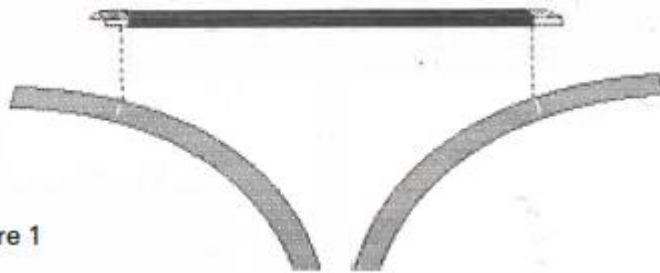

Figure 1
2. Use the inner-most holes on the supplied bond bar as a guide to mark the sheath, then make the appropriate sheath opening. Leave 1/2" of Mylar core wrap beyond each sheath opening. (Figure 1).